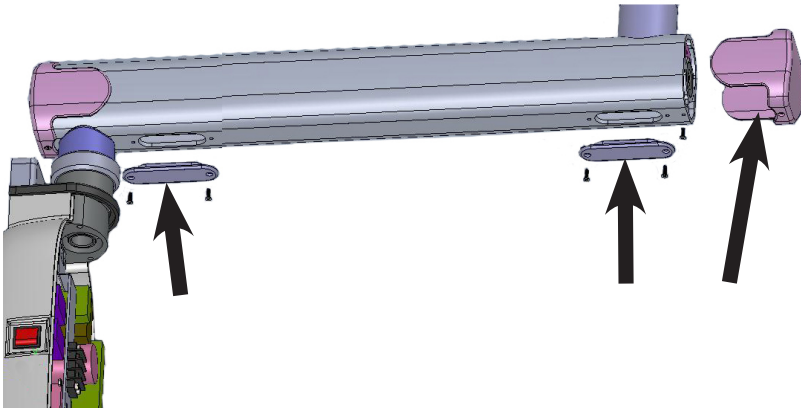

Figure 23: Remove end cap and bottom caps (M3x6 self tapping Counter sunk screws)Use screw driver.
- Remove the end cap by removing M3x6 self tapping CSK screws screw using screw driver and remove the two bottom caps of the straight arm by removing M3x6 self tapping CSK screws (2 screws for each cap) using screw driver as shown in Figure 23 .